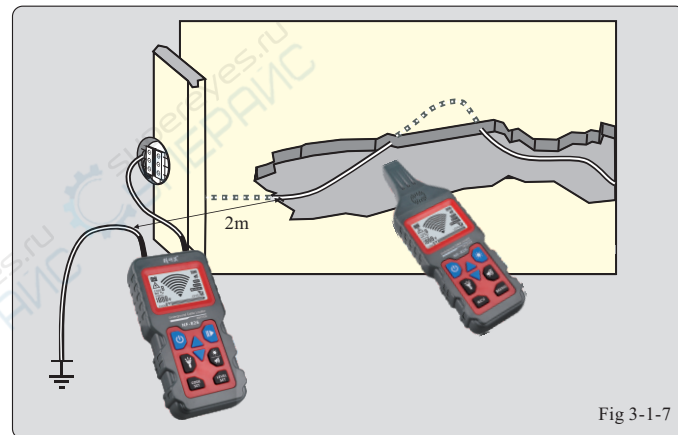

Fig 3-1-7
- ※ Connect the transmitter in a way shown in Fig.3-1-7;